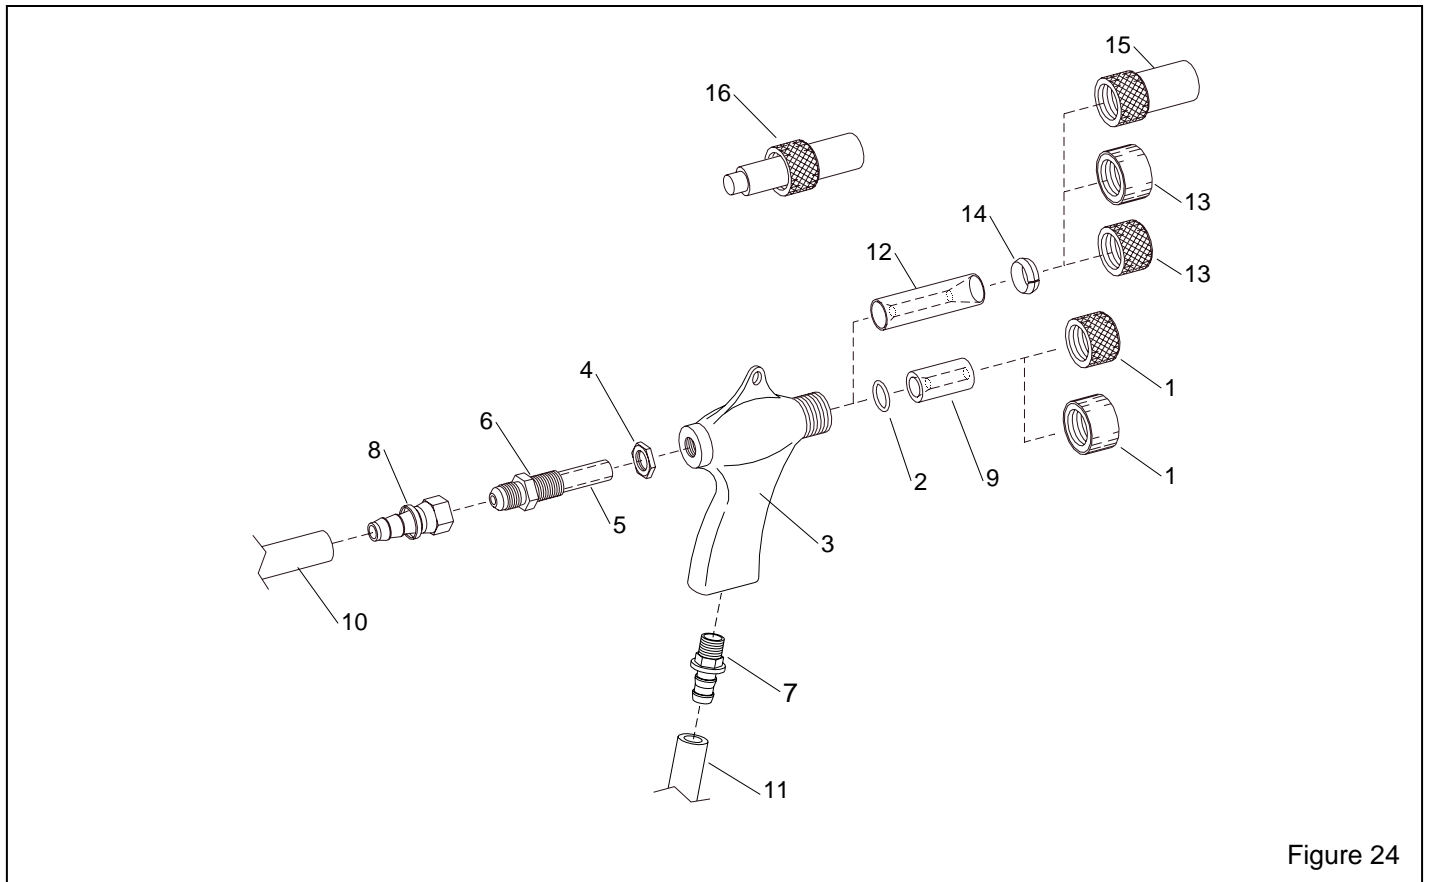

Figure 24
9.4 BNP Gun and Feed Assembly, Figure 24